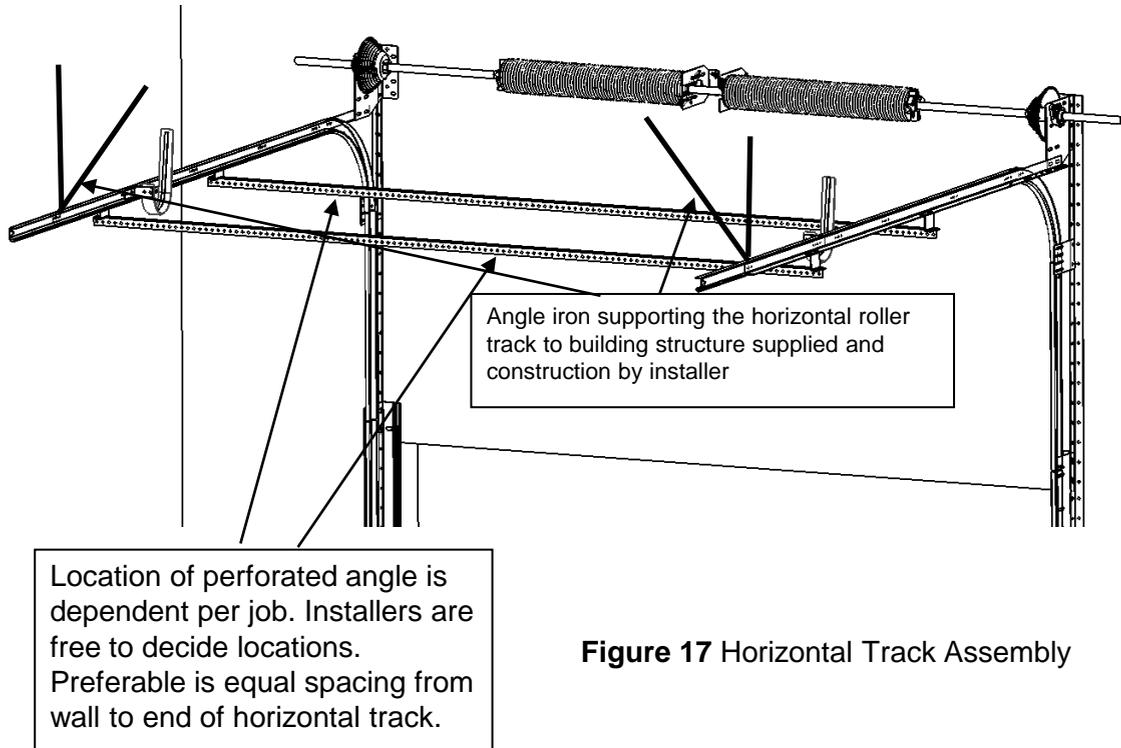

Figure 17 Horizontal Track Assembly
1. Attach Horizontal Roller Track Assembly to Upper Mounting Rail Assembly and Bearing Support Assembly. (To ease installation, use rope or bungee cord to support the ends of the Roller Track Assembly. This will also reduce torque on the Roller Track Assembly.) **(SEE FIGURE 17)**